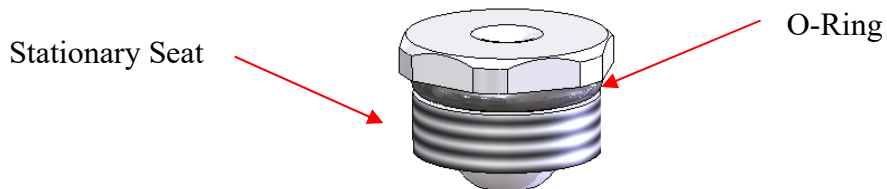

Figure 32: Stationary Seat
22. Remove the o-ring from the stationary seat. See Figure 32.